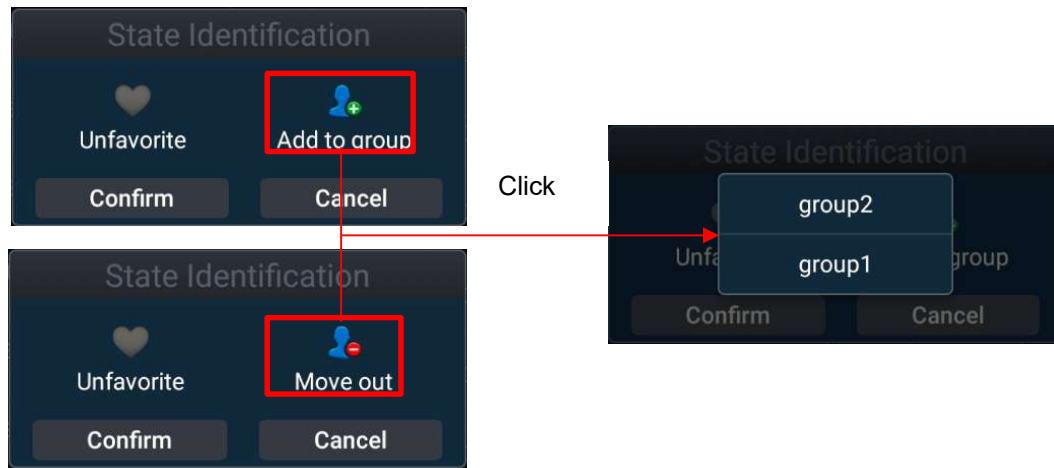

Figure 29 - AIS Portrait icon.
- b. Click the portrait icon, the status operation information serial port as shown in Figure 29 pops up, click **Add to group** or **Move out**, select the name of the group, and click **Confirm** to add or remove the